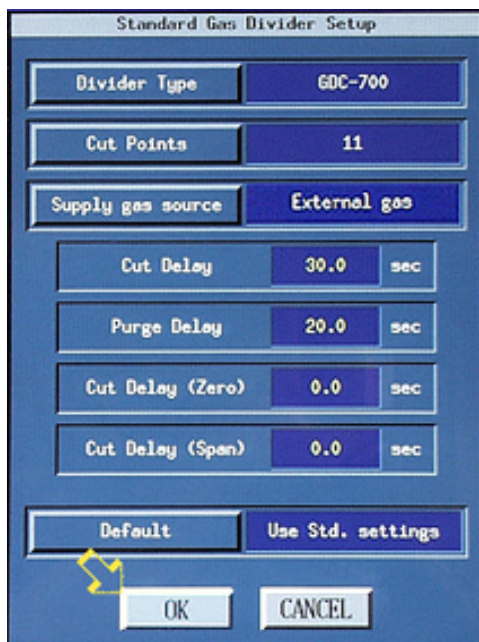

Figure 16
- 123 Click on “OK.” See the arrow in Figure 16. The “General Parameter Setup” panel will appear.